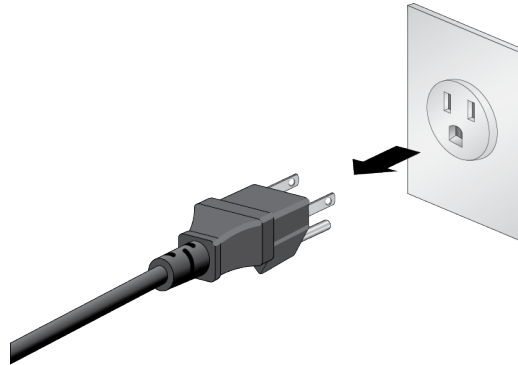

Figure 62. Powering Off the Switch
1. Power off the switch by disconnecting its AC power cords from the AC power sources. Refer to Figure 62.